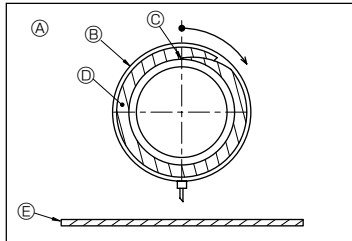

Fig. 3-6
5. Insulate the drain port and drain socket with insulating material ⑦, then secure the material with a band. (Both insulating material and band are supplied with the unit.) (Fig. 3-6)
[Fig.3-6]